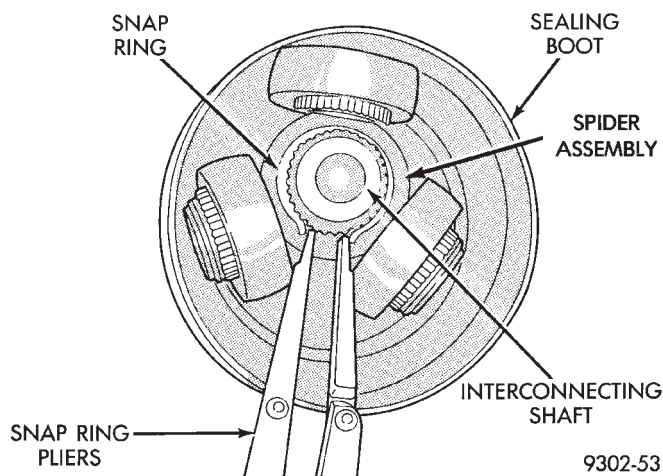

Fig. 4 Spider Assembly Retaining Snap Ring Removal
(4) Remove snap ring which retains spider assembly to interconnecting shaft (Fig. 4). Then remove the spider assembly from interconnecting shaft. If spider assembly will not come off interconnecting shaft by hand, it can be removed by tapping the end of the spider body with a brass drift. **Do not hit the**